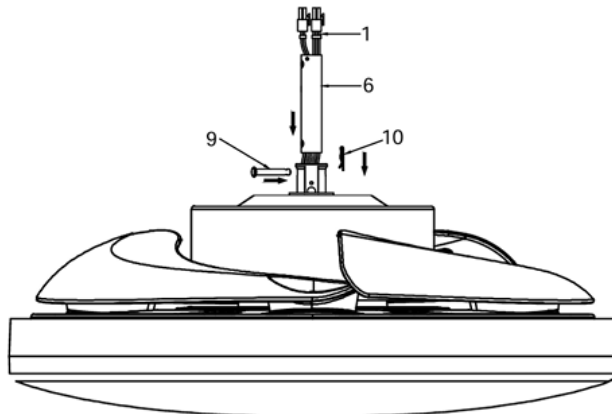

Fig. 4.3
3. Carefully feed the fan wires (1) up through the down rod (6). (fig. 4.3)
4. Assemble the down rod (6) into the down rod coupling housing (8), by inserting and line up the down rod coupling housing holes with the down rod holes and insert the hitch pin (9) and secure with the lock clip (10). (Fig. 4.3)